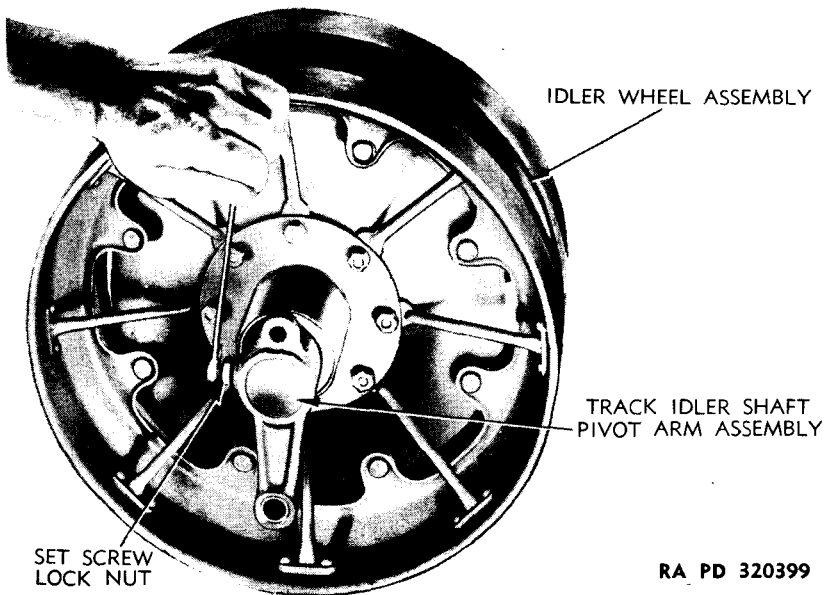

Figure 38 — Removing Idler Pivot Arm Set Screw
a. Remove Pivot Arms. Loosen lock nut on pivot arm set screw. Remove set screw by turning counterclockwise (fig. 38). Pull pivot arm from steering spindle.